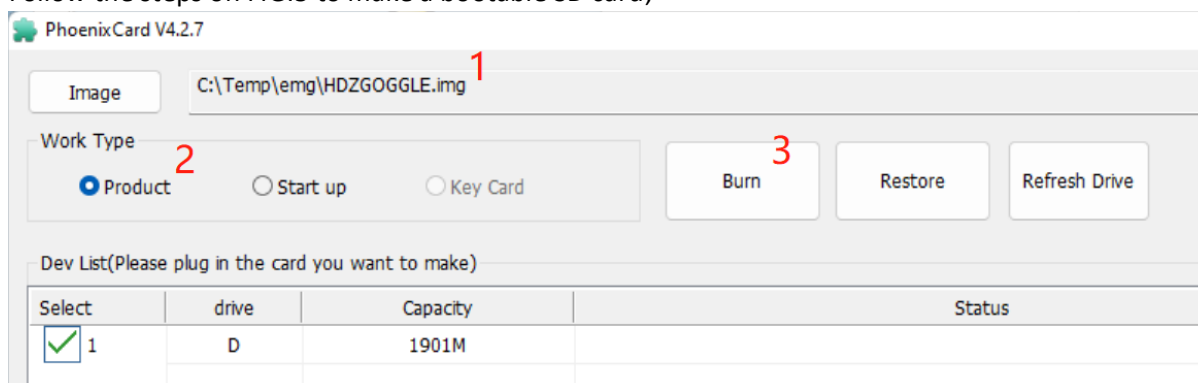

FIG 5. Make a bootable SD Card
2. Follow the steps on FIG.5 to make a bootable SD card;